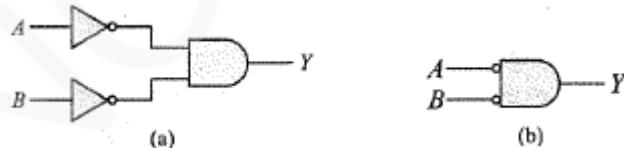

Figure 2.20: (a) AND gate with inverted inputs, (b) Equivalent symbol
- Bubbles on the inputs are a reminder of inversion that takes place before AND operation (Fig 2.20).